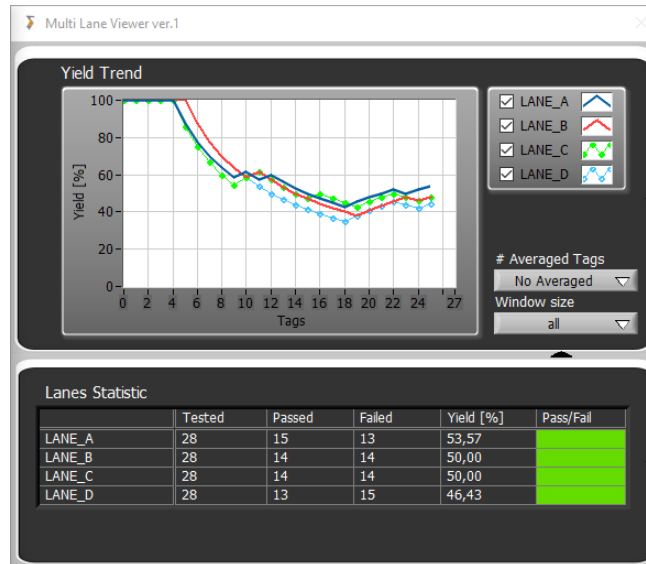

Figure 22: Multi Lane Viewer Plug-In
- c. For multi group (typically multilane) a control appears on the right side of the graph where the operator may choose which lane is monitored (by installing the “Multi Lane Viewer” plug-in, it will possible to monitor the statistics of all the lanes as shown in Figure 22)